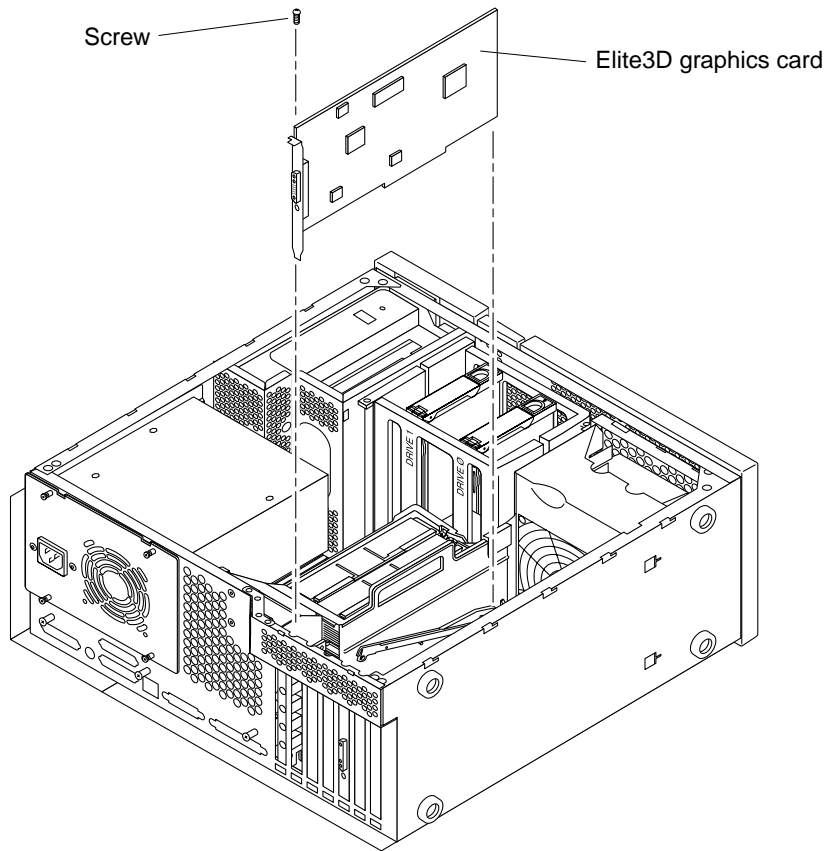

FIGURE 3-5 Removing and Replacing an Elite3D Graphics Card
3. **Remove the Elite3D graphics card as follows (FIGURE 3-5):**